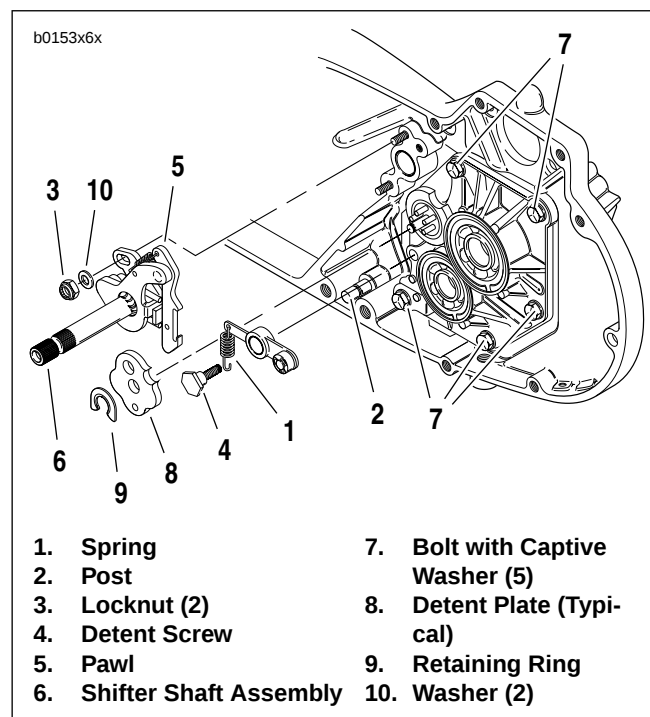
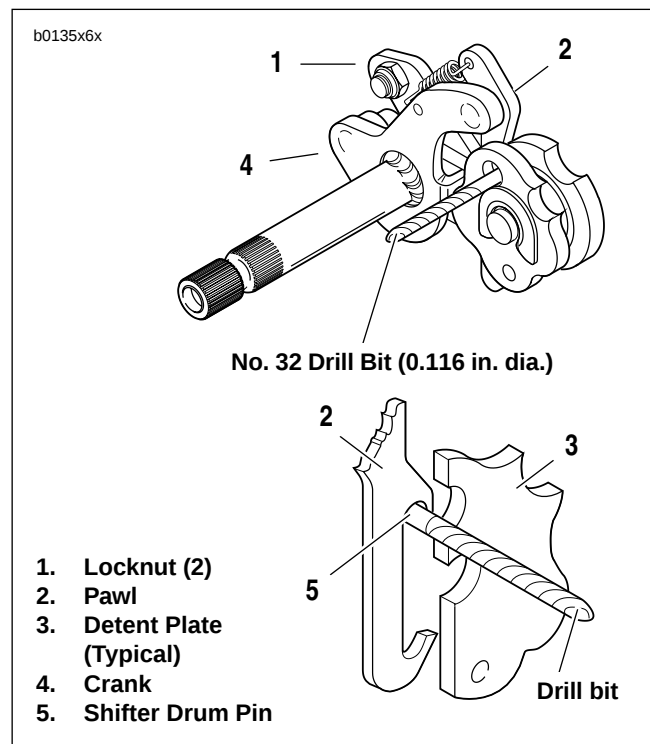

Figure 6-58. Installing Access Door
Figure 6-59. Shifter Shaft Assembly Alignment
2. See Figure 6-58. Install access door.
- a. Apply a few drops of LOCTITE THREADLOCKER 243 (blue) to the five access door mounting bolts with captive washers (7).
- b. Insert the bolts with captive washers (7) through access door into tapped holes in right transmission case.
3. Lift pawl (5) over drum pins and place shifter shaft assembly (6) on studs at transmission case. Loosely install a washer (11) and locknut (3) on each stud.
4. Attach loop of spring (1) over and into groove in post (2).
- a. Place detent plate (8) over drum pins.
- c. Install **new** retaining ring (9) using SHIFT DRUM RETAINING RING INSTALLER (Part No. HD-39151).
6. See Figure 6-59. Align shifter shaft.
- b. Place a No. 32 drill bit (0.116 in. dia.) through hole in detent plate (3), and between pawl (2) and drive pin at end of shifter drum shaft.
- c. Push down top of crank (4) to remove all clearance between pawl and drill bit; this will correctly align pawl to shift drum pins (do not push down with too great a force, as this might cause the shifter drum to rotate).
- d. With bit in place, tighten shifter shaft assembly bottom locknut (1) first to 90-110 **in-lbs** (10-12 Nm). Then, tighten shifter shaft assembly top locknut (1) to the same torque.